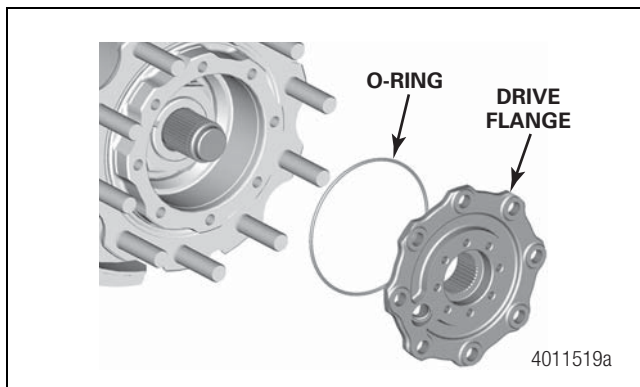
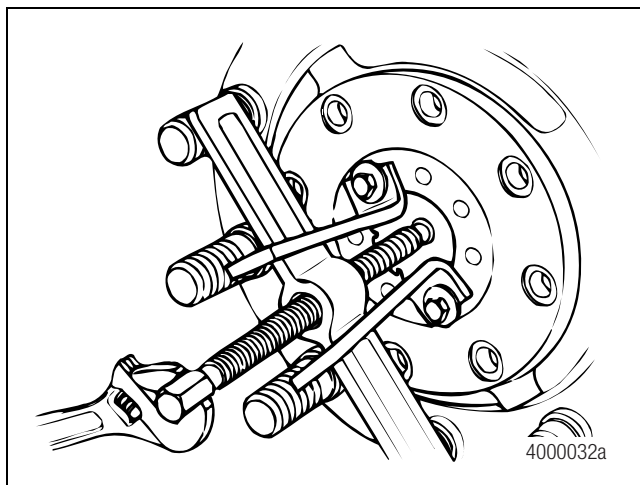

Figure 4.8
Figure 4.9
6. Remove the drive flange from the hub. If necessary, use a puller to remove the drive flange. Figure 4.8 and Figure 4.9.